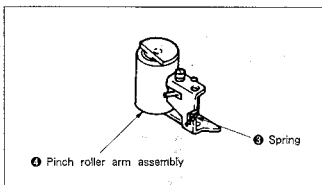

Fig. 7-19.
- 1) Hook spring ③. (See Fig. 7-19.)